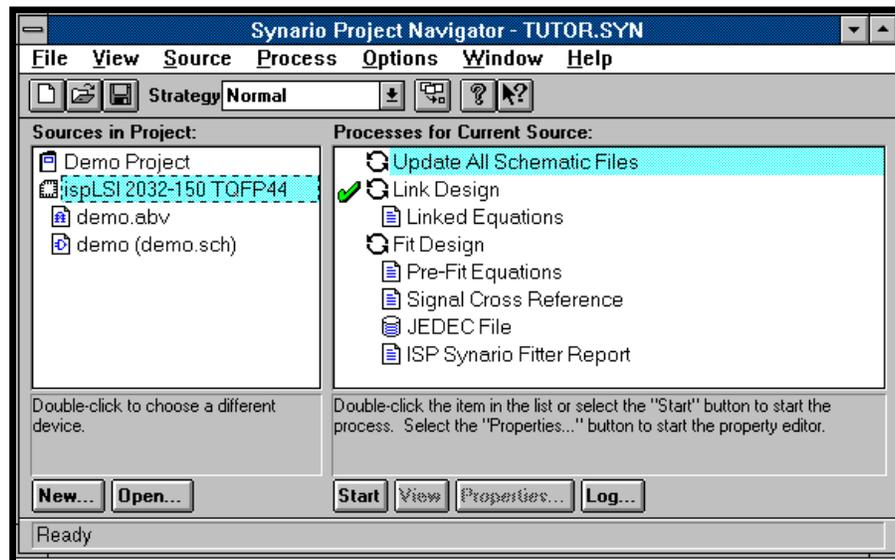

Figure 1-20. Synario Project Navigator
39. If you quit from ISP Synario after the last section, re-start by double-clicking on the icon in the ISP Synario System Program Group. Your Navigator screen should look like the one in Figure 1-20. If not, make sure all the previous steps were completed correctly.